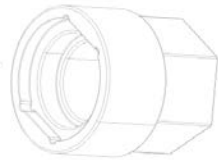

Figure 8
137-0920	Tool-Drive, Shaft Removal (removing drive shaft from reel). (Figure 8)
6. For proper safety, prevent the reel from rotating by blocking the cutting reel with a piece of wood **near one of the reel spiders**. Slide shaft drive removal tool (137-0920) over the shaft so the flats on the input shaft and the flats on the socket align. Using 1½ inch box end wrench, remove the groomer drive shaft from the cutting unit. (Figure 8)